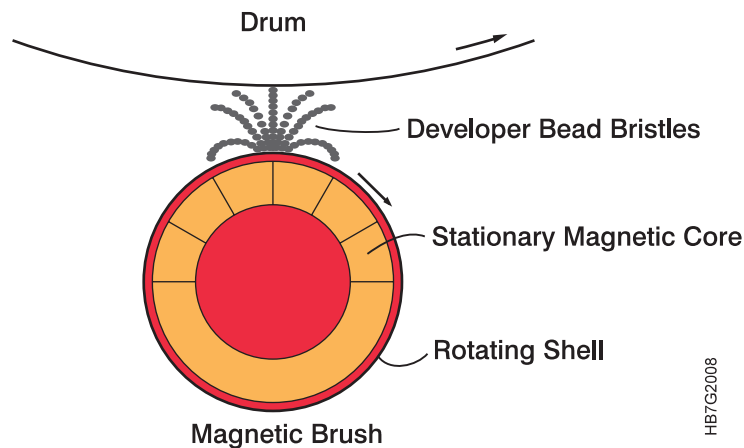

Figure 8. Attraction of Toner to the Drum
- 3 A development unit develops the latent image by depositing toner particles on the drum. The development unit contains the developer, which is a mixture of toner and magnetizable carrier particles. When this mixture is stirred, the toner and carrier become electrically charged, causing the toner to stick to the carrier. The developer (toner plus carrier) is attracted to a magnetic roller and forms a magnetic brush (see Figure 8).